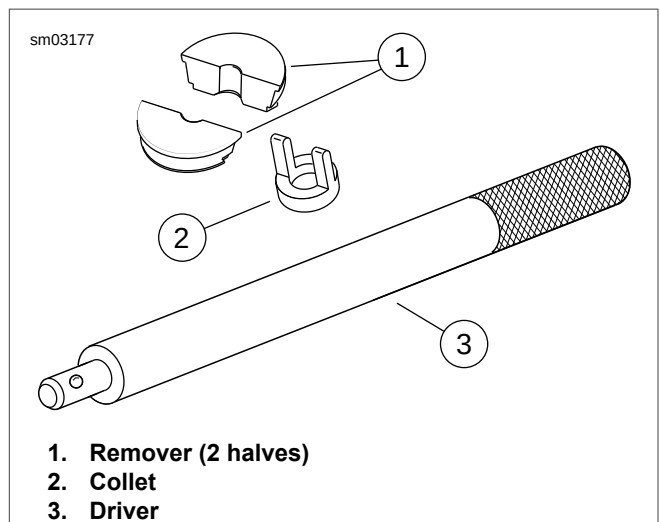

Figure 2-121. Race Remover Tools (HD-33416 and HD-39301-A)
1. See Figure 2-121. With the tapered side down, seat STEERING HEAD BEARING RACE REMOVER (Part No. HD-39301-A) on upper bearing race leaving a gap in middle and with lower lip of removers capturing bottom edge of bearing race.